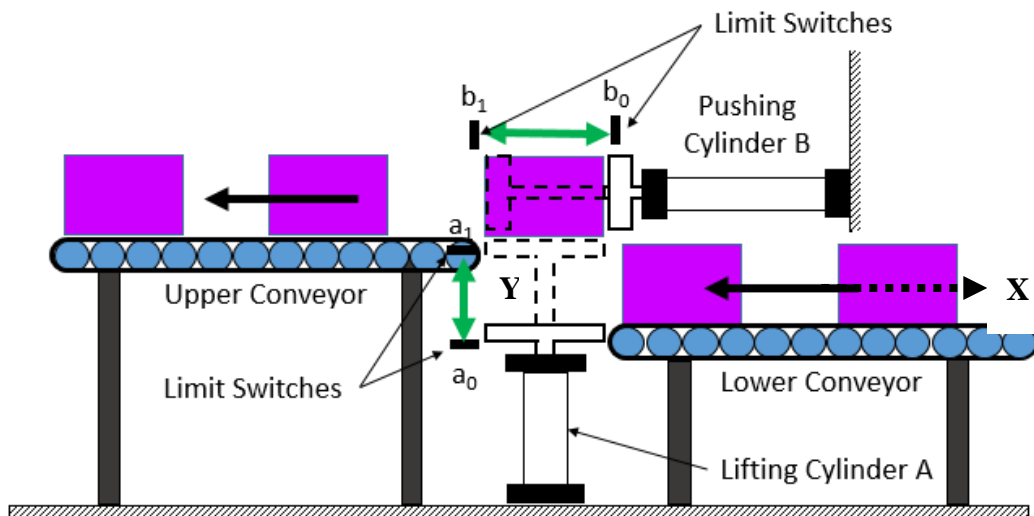

Figure 1.0
- Step 4: When the object metal is not detected, reverse the conveyor to **X**. Refer to figure 1.0